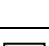

Fig. 2.4 Key identification.
- From the main menu (figure 2.3), use keys 5 (▲) and 6 (▼) (figure 2.4) to scroll through the list of options.